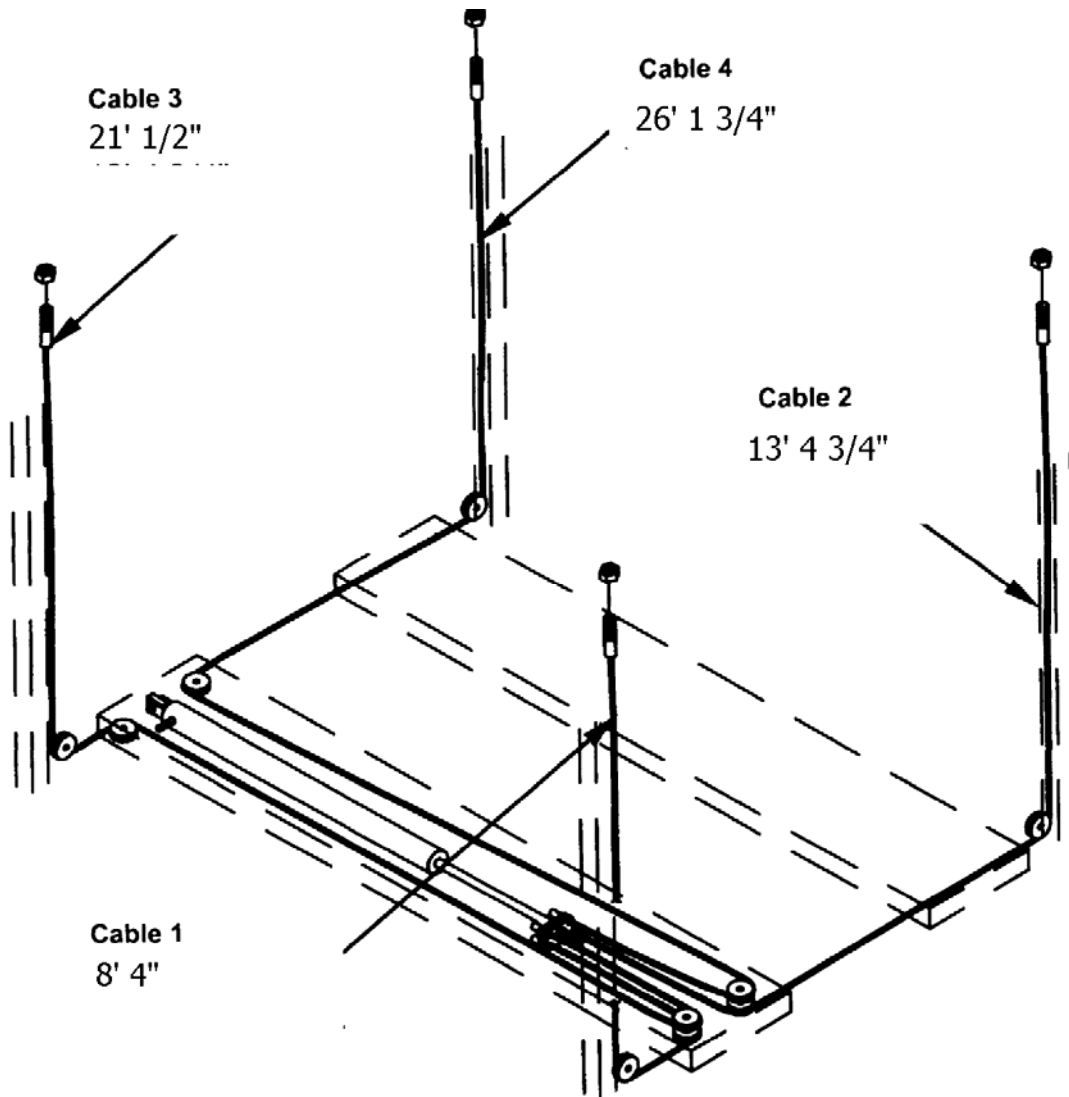

Figure 3
1. Lay out all cables and measure from the inside of the button end to the end of the cable bolt to insure proper cable lengths. See fig.3 for measurements.
Since the nub end of the cable is easier end to feed through the pulley, start with the pulley at the end of the crossbar and work your way back to the ram. (Refer to fig 3 for cable routing.)